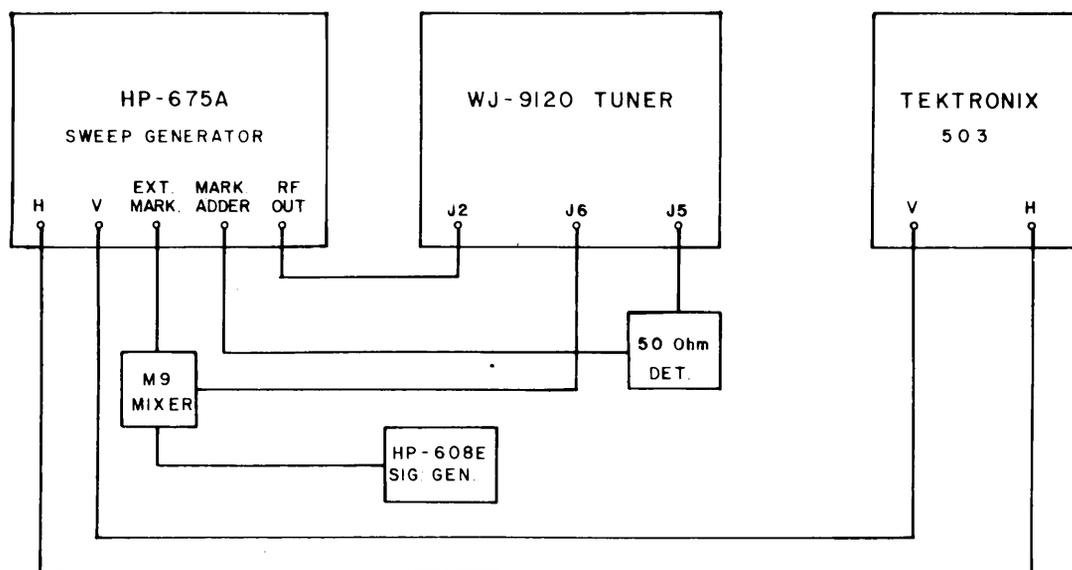

Figure 4-8. Equipment Connections, 10 MHz IF Amplifier
- (2) Connect the test equipment as illustrated in Figure 4-8.
- (3) Adjust the HP-675A Sweep Generator to sweep 100 kHz about a center frequency of 20 MHz at a level of -15 dBm. Adjust the oscilloscope to produce a suitable response.
- (4) Set the HP-608E Signal Generator for an output frequency of 10 MHz and adjust the output level to produce a visible marker.